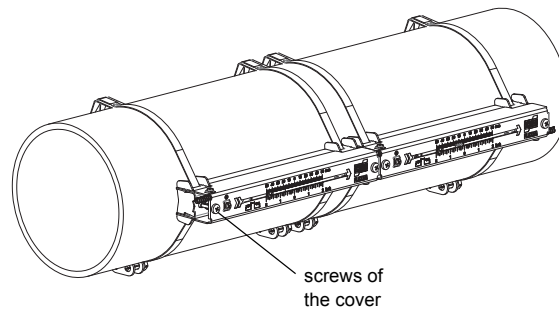

Fig. 8.26: Transducers with Variofix L on the pipe
- Tighten the screws of the cover (see Fig. 8.26).